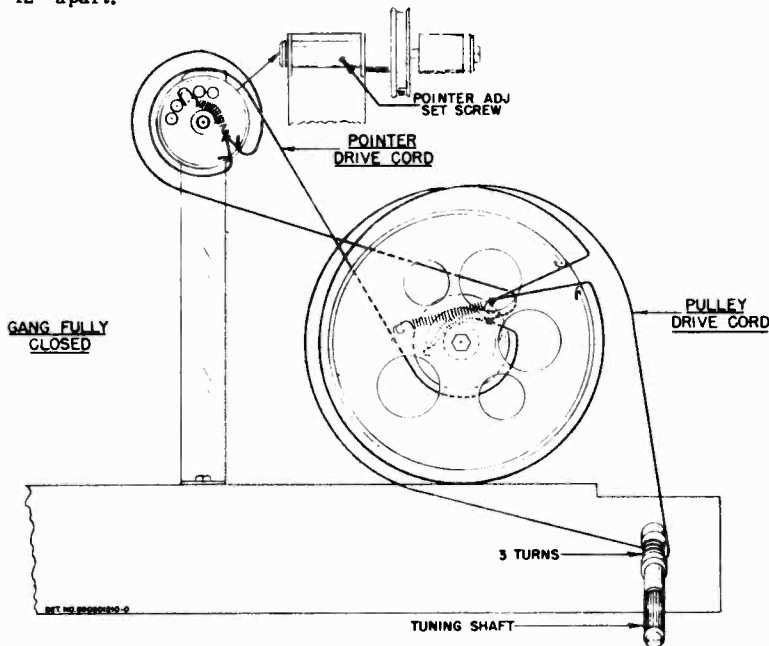

FIGURE 2.
5. From the back of the cabinet, loosen the pointer adjustment setscrew (see Figure 2), and pull the pointer and shaft assembly from the chassis. **CAUTION: Do not remove the nut from the front of the pointer, as the detent ball and spring will fall out and may become lost.**
2. From the back of the cabinet, loosen the pointer adjustment setscrew (see Figure 2). **CAUTION: Do not remove the nut from the front of the pointer.**